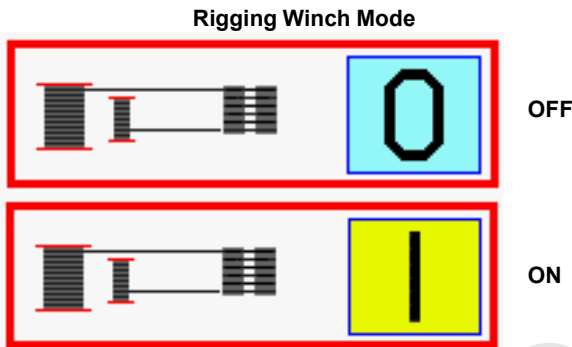

FIGURE 4-43
See Figures 4-43 and 4-45 for the following procedure.
2. In level 2, use the select buttons to enter the selected drum screen options. Select the rigging winch data box (Figure 4-43).
2. In level 2, use the select buttons to enter the selected drum options screen. Select the rigging winch data box (Figure 4-43).